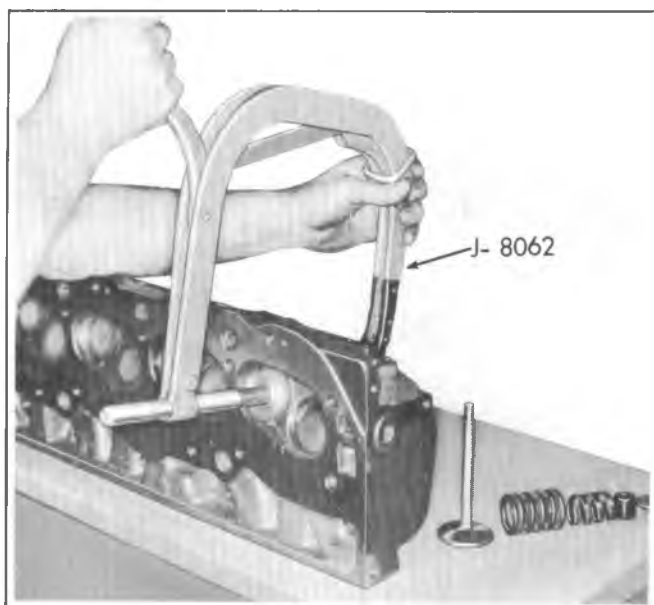

Fig. 6A5-18--Compressing Valve Spring
2. Using Tool J-8062, compress the valve springs (fig. 6A5-18) and remove valve keys. Release the compressor tool and remove rotators or spring caps, springs and spring damper, then remove oil seals and valve spring shims.
1. Clean all carbon from combustion chambers and valve ports using Tool J-8089 (fig. 6A5-19).